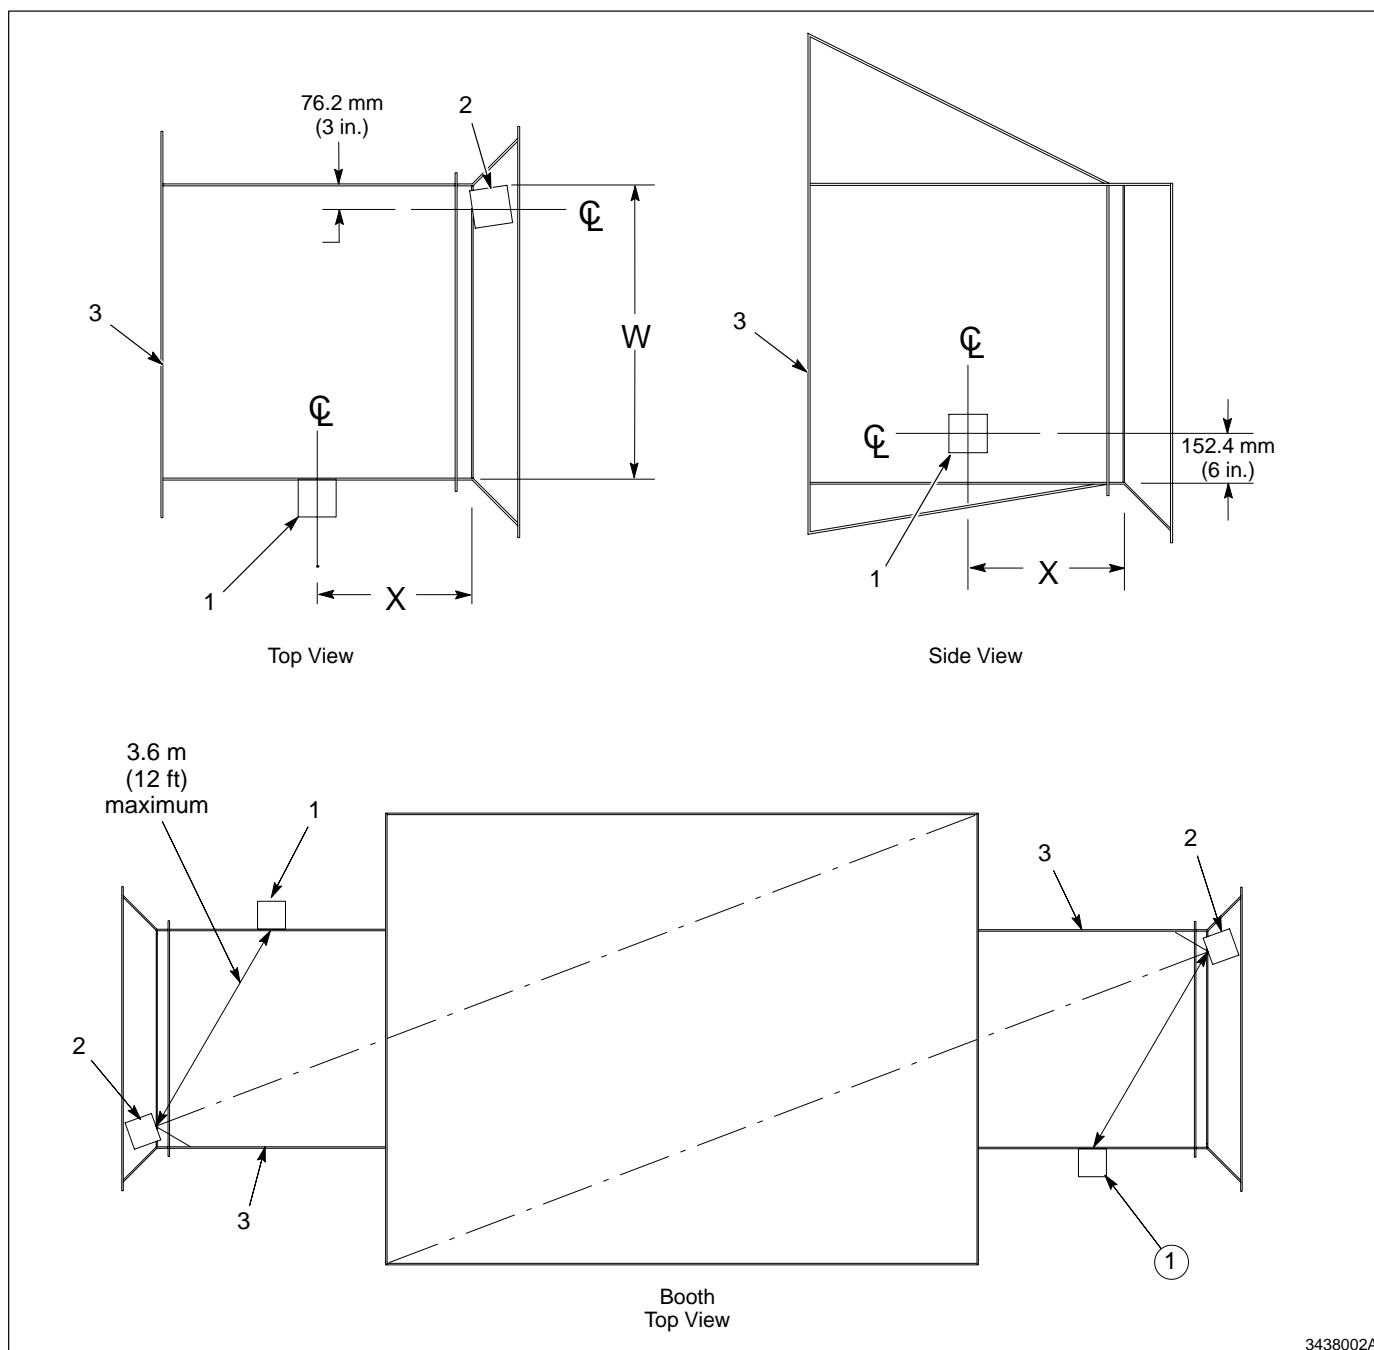

Fig. 2 Determining Sensor and Test Light Locations
1. See Figure 2 and refer to Table 1 to determine the approximate locations for the test lights and flame sensors. Note that while the flame sensors have a 90° field of view, the test lights only emit UV radiation over a 60° field of view. Mount the flame sensors and test lights as follows: